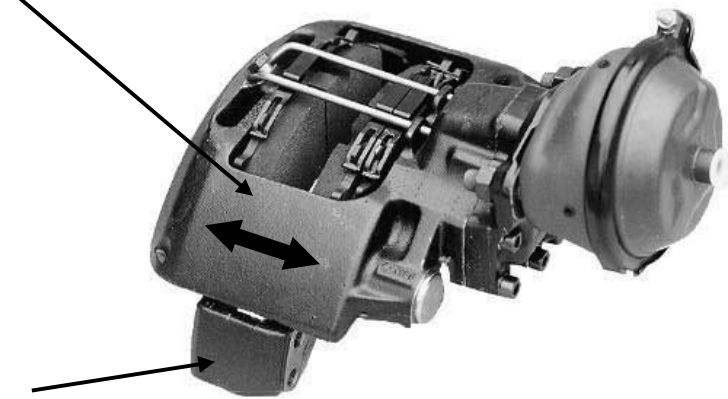

Fig. 1
The brake caliper (1) slides axially on guide pins (8, 9) mounted in the brake carrier (2) and the axially moveable brake pads (35, 36) are held in the brake carrier by a hold down hoop (38) and hold down springs (37). Thereby the brake force is then transmitted to the abutment faces in the brake carrier – shown in Fig. 1, 2 & 3.